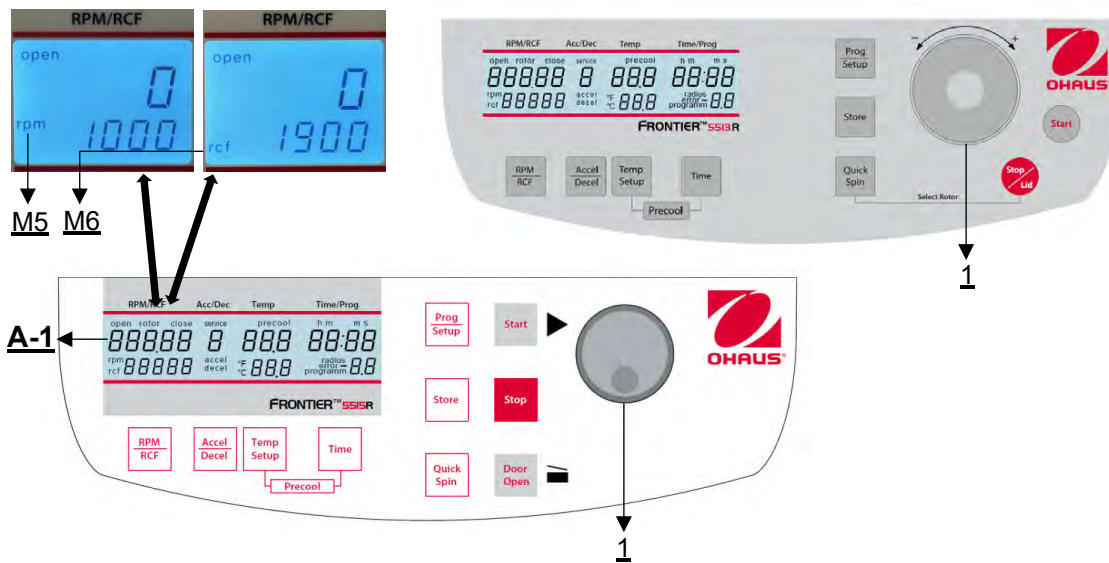

Figure 12
The pre-selection is activated through the key **"RPM | RCF"** (3) (refer to **Figure 12**). By pressing the key once the word **"rpm"** (M5) flashes. By pressing the key twice, the pre-selection of the centrifugal forces can be selected. Then the flashing word **"rcf"** (M6) appears. You can set the desired values with the adjusting knob / touch wheel (1). In the display (A-1) the regulated value is shown permanently, before, during and after the run.